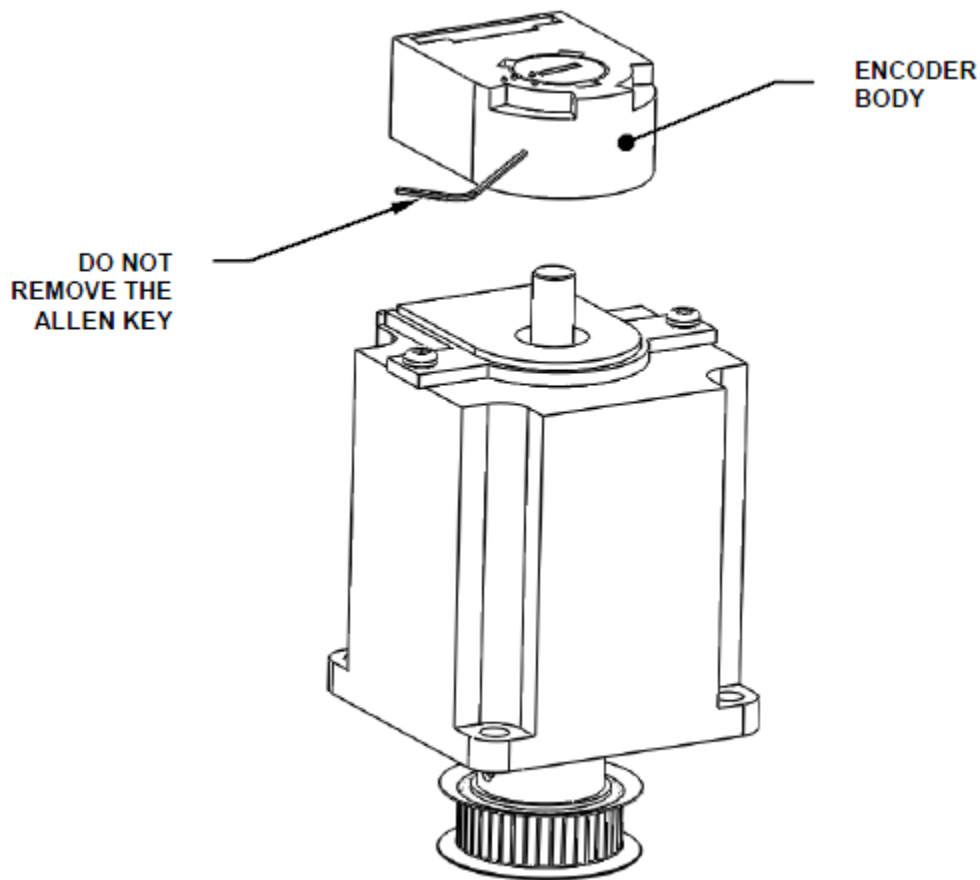

Figure T-6: Installing the Encoder
3. Install the main part of the Encoder onto the Mounting Plate by snapping it in place as shown in Figure T-6. Do not remove the Allen key in the encoder.